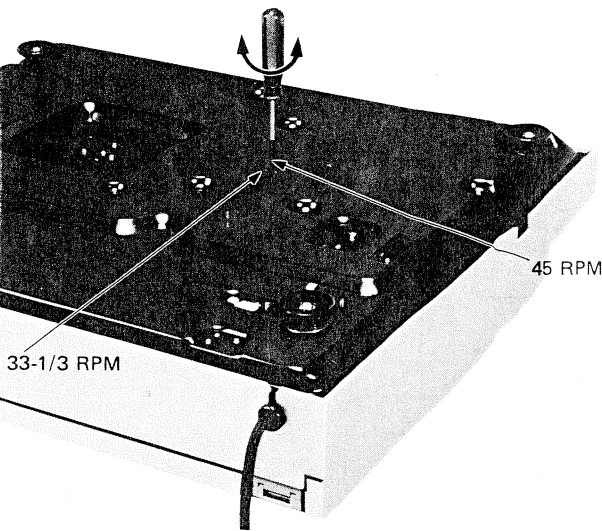

Fig. 21
- (4) When the measurement value is out of the specified frequency range, adjust the adjustment holes (A and B) on the bottom board in the following procedure. (Fig. 21)